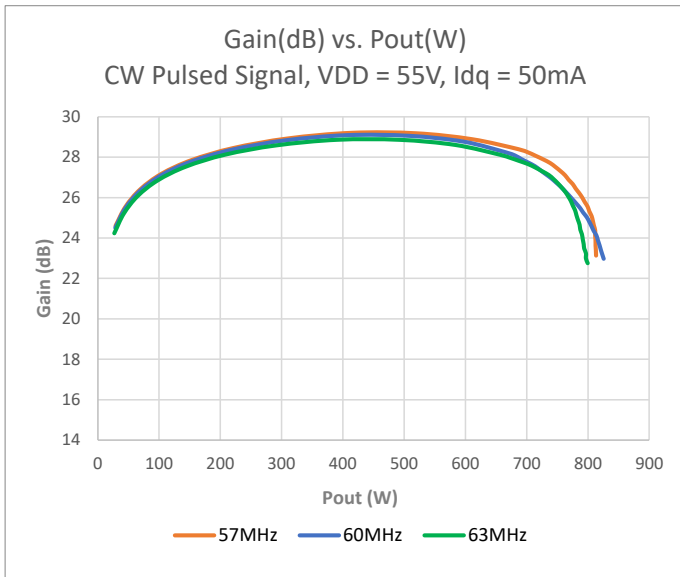

Figure 3 Gain(dB) over output power (W), CW pulsed signal, VDD = 55V, Idq = 50mA, PW = 100µsec, δ = 10%
- Figure 3 Gain(dB) over output power (W), CW pulsed signal, VDD = 55V, Idq = 50mA, PW = 100µsec, δ = 10%8